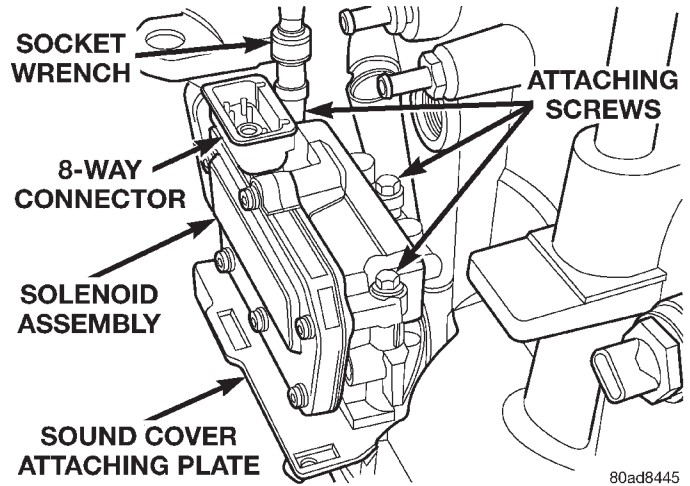

Fig. 301 Install Solenoid Pack
- (1) Install transaxle solenoid pack (Fig. 301).
- (2) Install input and output speed sensors.